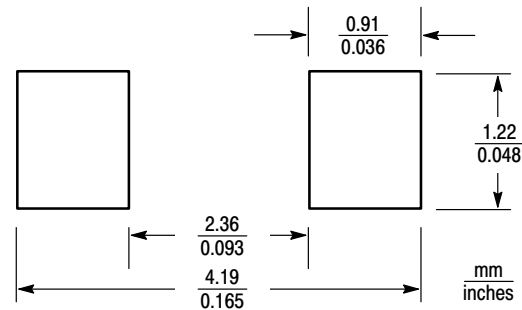

Figure 12. Minimum Recommended Footprint
2. FR-5 = 3.5 X 1.5 inches, using the On minimum recommended footprint as shown in Figure 12